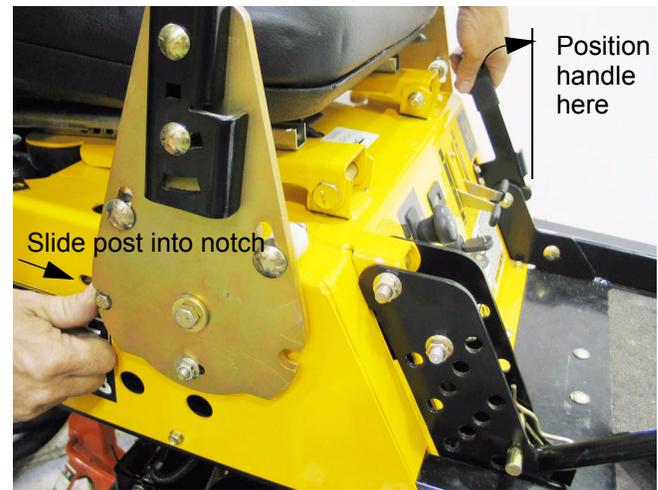

Figure 21.38
21.38. When the linkage is in this fully extended position, push the post being adjusted as far as it will go in the notch in the rear edge of the steering pivot plate and tighten the nut. See Figure 21.38.